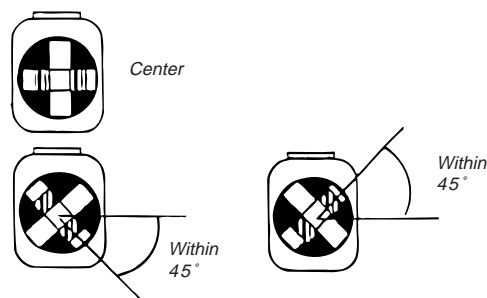

Fig. 8-1.
3. At this time, if the RV701 and RV702 rotated more than the angle shown in Fig. 8-1 (normally, the rotation angle is within $\pm 45^\circ$ from the center), the suspension (spring) of pick-up will be deformed. Playing the LD under this condition could cause the images to be disturbed in the vicinity of outside. Replace the optical pick-up.